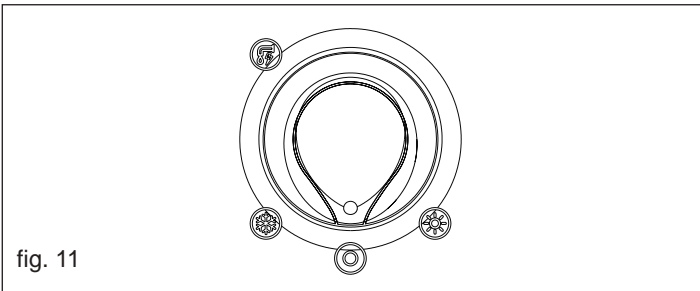

fig. 11
- Position the mode selector to  (off/reset) (fig. 11)